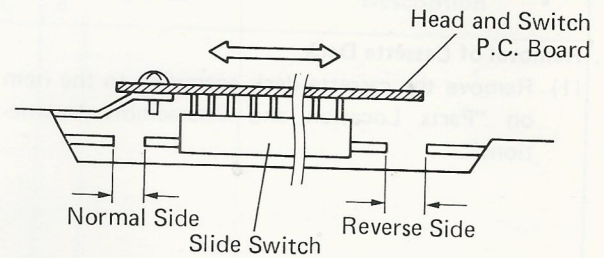
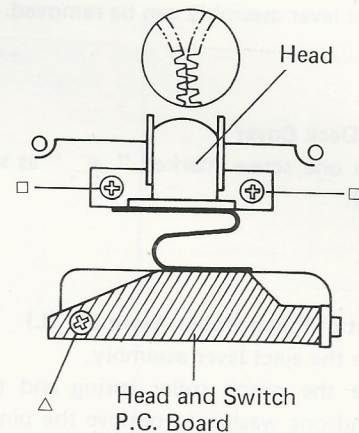

Figure 4
Figure 5
- (1) Remove the eject lever assembly.
- (2) Unsolder one screw marked "△" and then remove it and two screws marked "□" as shown in Figure 5.
- (3) Remove the head from the P.C. Board.
- (4) After replacing the head with a new one, hold the head and switch P.C. Board with three screws temporarily and assemble them in the opposite way to disassembly.
- (5) After assembly, adjust the position of the head and switch P.C. Board so that the clearances on the both ends of the slide switch become equal on the side or normal and reverse as shown in Figure 4.
- (6) After adjusting, solder one screw marked "△" as shown in Figure 5.
- (7) Finally, adjust the head azimuth according to "Head Azimuth Adjustment", and apply the screw-lock paint on the adjusting screw.